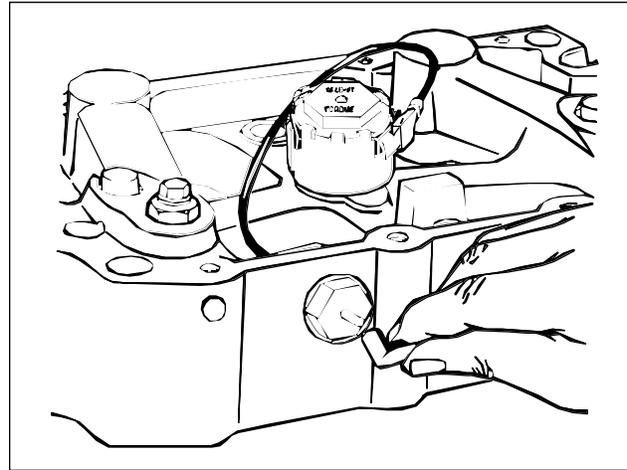

FIG. 10
1. Assure that the control wires are connected to the electrical connector in the engine brake housings (Fig. 10).